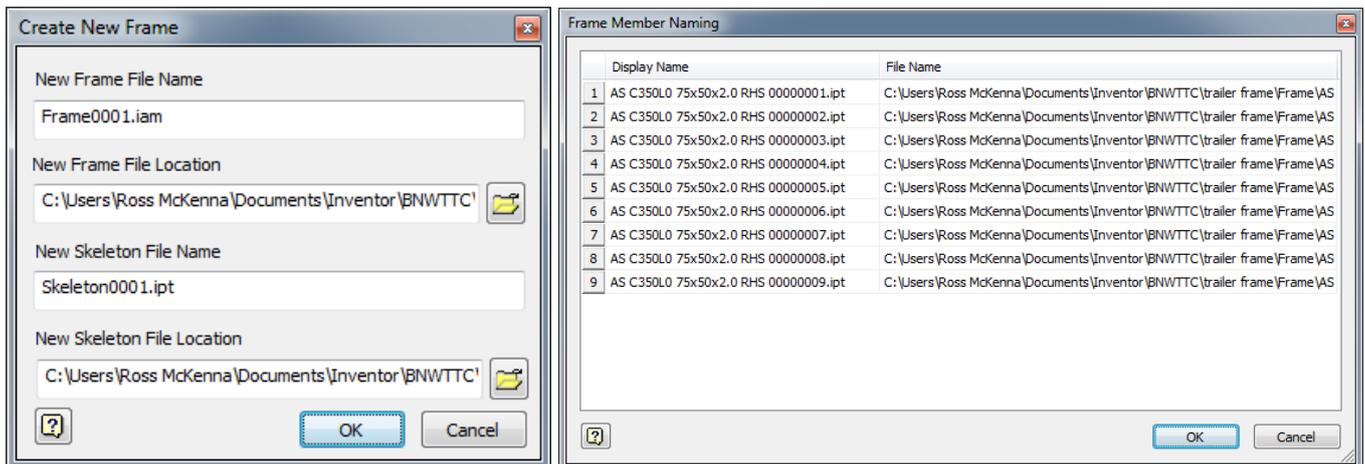

**FIG 5.0**
**Step # 5.** In the Insert Dialog Box set the *Frame Member Selection* to values as shown in Fig 5.0